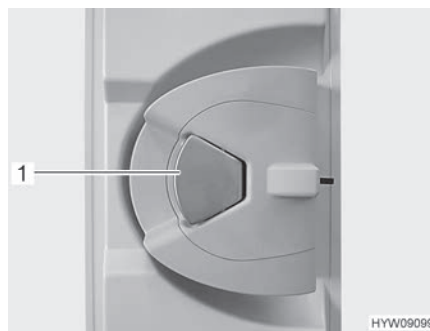

Fig. 24 Door lock (conversion door, inside)
Opening: ■ When the door lock is locked: Pull once at the door handle (Fig. 24,1). The door is unlocked.
■ Pull on the door handle (Fig. 24,1). The door is open.
Locking: ■ Push the door handle (Fig. 24,1).